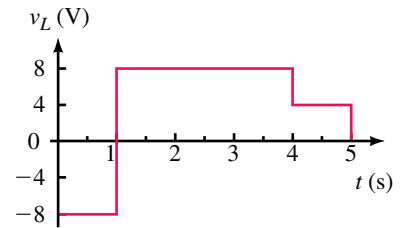

FIGURE 13-34
15. Figure 13-34 shows the graph of the voltage across an inductance. The current changes from 4 A to 5 A during the time interval from 4 s to 5 s.